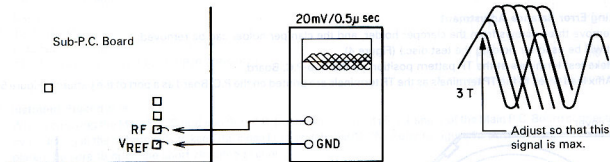

Figure 7
- (1) Connect the oscilloscope across the test terminals RF and VREF. (Figure 7)
- (2) Play back the test disc YEDS-7 and adjust FE BAL VR R115 (20k ohms) so that the 3T waveform of the RF signal (eye pattern) is max.